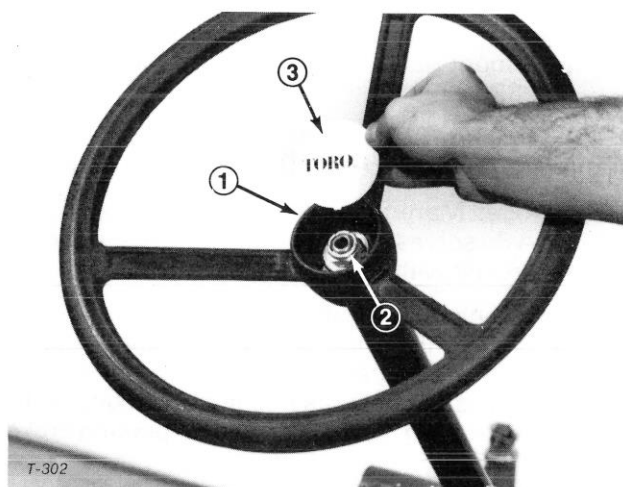

Figure 1
2. Secure steering wheel in place with jam nut (Fig. 1 and tighten it to 70 ft-lb (95 N·m).
3. Insert tab of steering cap into cutout in steering wheel hub (Fig. 1). Press cap into groove in hub.